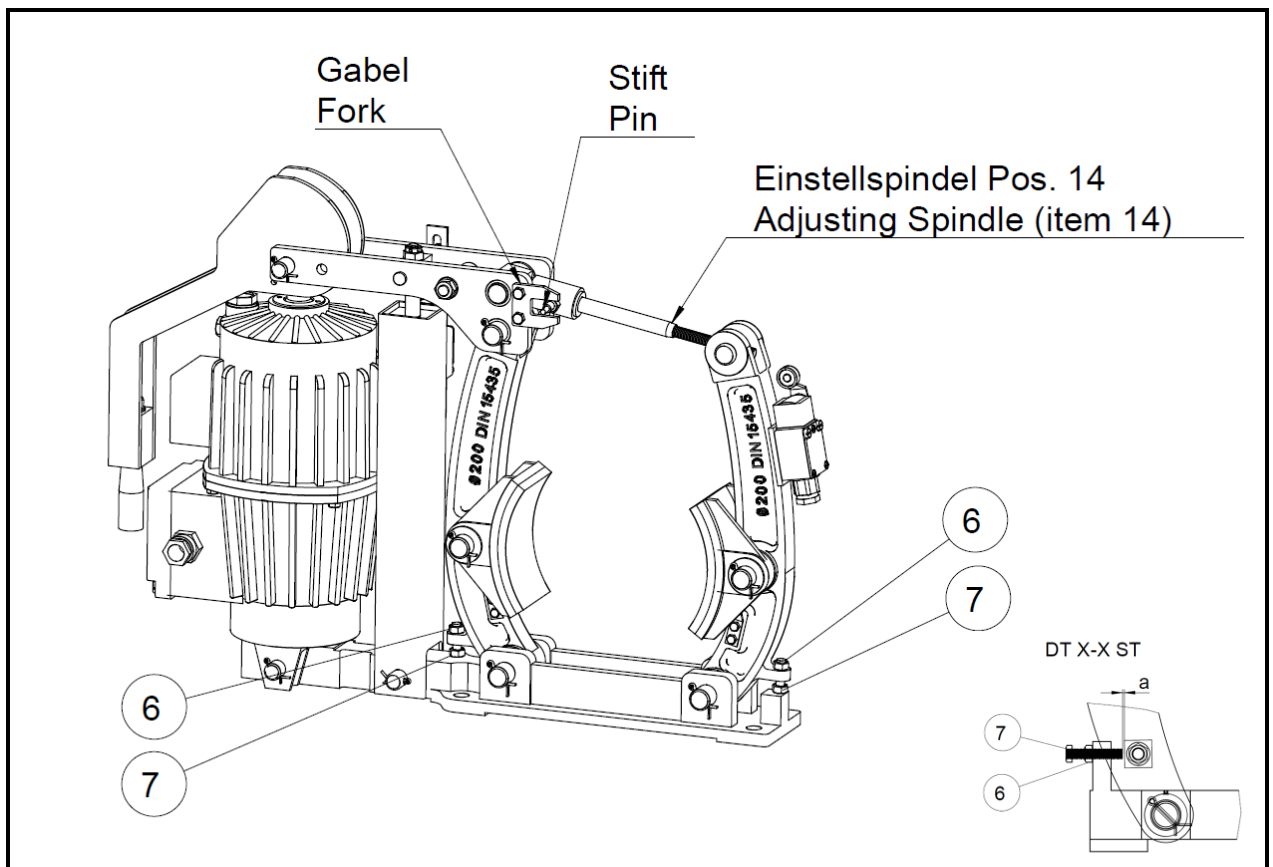

Fig. 8.3
There do exist two different versions of the brake. FEM with manual adjustment pad wear and FEA with automatic adjustment of the pad wear. The FEA version is clearly recognizable. The adjust spindle (item 14) has a pin at the side, see Fig. 8.3.
- For the purpose of changing the brake pads, loosen the nut (item 6) and turn the adjusting screw (item 7) into the lever maximum revolutions back.
- Loosen the fork Fig. 8.3 and turn the adjusting spindle (item 14) back until you have enough free space to mount the new brake pads.
- Now you can loosen the old brake pads and you can move the brake pads topward for easy exchange. The new pads mount in the same way fix the axes (item 3) the washer (item 4) and the split pin (item 5) don't forget to bend the split pin (item 5).
- Reassemble the fork Fig. 8.3 and activate the brake multiple times the automatic process will start and adjust the clear distance between the brake pads of approx. 3 mm.